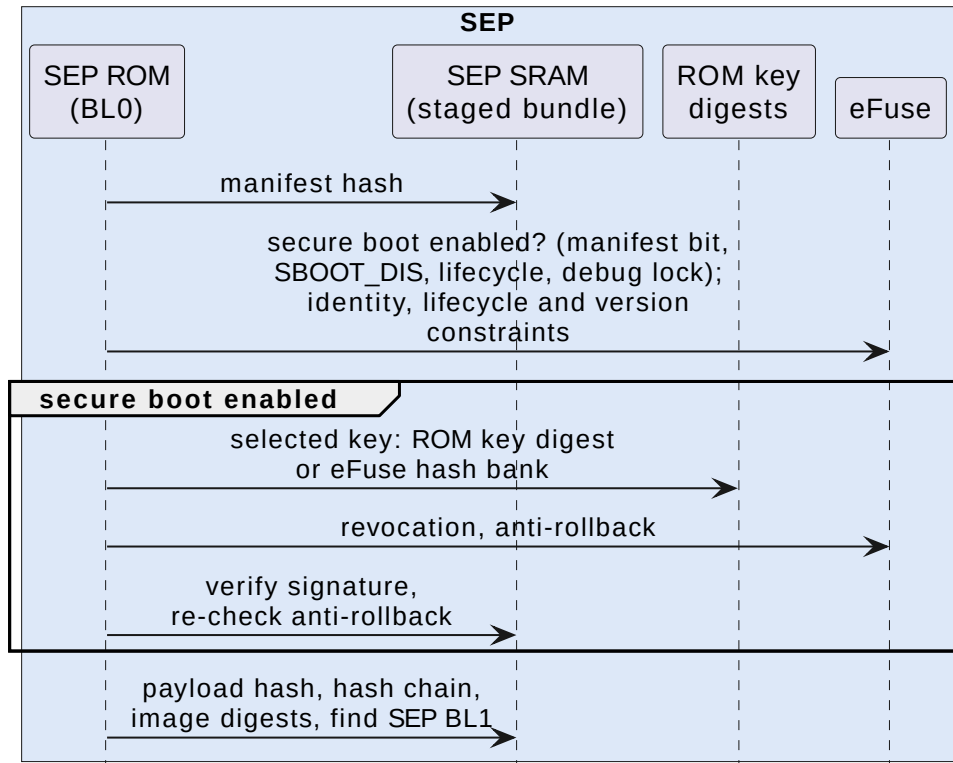

Figure 3. Bundle checks in SEP BL0
2. **The primary authenticates.** SEP BL0 on chiplet 0 copies its bundle from the SPI flash into SEP SRAM, authenticates it (Figure 3), and enters SEP BL1. SEP BL1 restarts chiplet 0’s SMC into SMC BL1 (Section 1.2).
4. **The secondary authenticates.** SEP BL0 on chiplet 1 copies the bundle from its SMC’s SRAM into SEP SRAM, checks it against chiplet 1’s trust anchors (Figure 3), and enters SEP BL1. SEP BL1 restarts chiplet 1’s SMC into its own SMC BL1.
On both paths the manifest lands at the base of SEP SRAM, `0x1000_0000`, and the payload immediately after it, 8-byte aligned. Validation always works on this copy in SEP SRAM, never on SMC SRAM, which stays writable from the SMC side. Figure 3 shows the order in which SEP BL0 checks it; Section 1.1.2 describes the checks.
- Authenticate.** Chiplet 1's SEP takes over as described in Section 1.2.3. It verifies the bundle against chiplet 1's ROM digests and eFuses only, as Figure 3 shows.